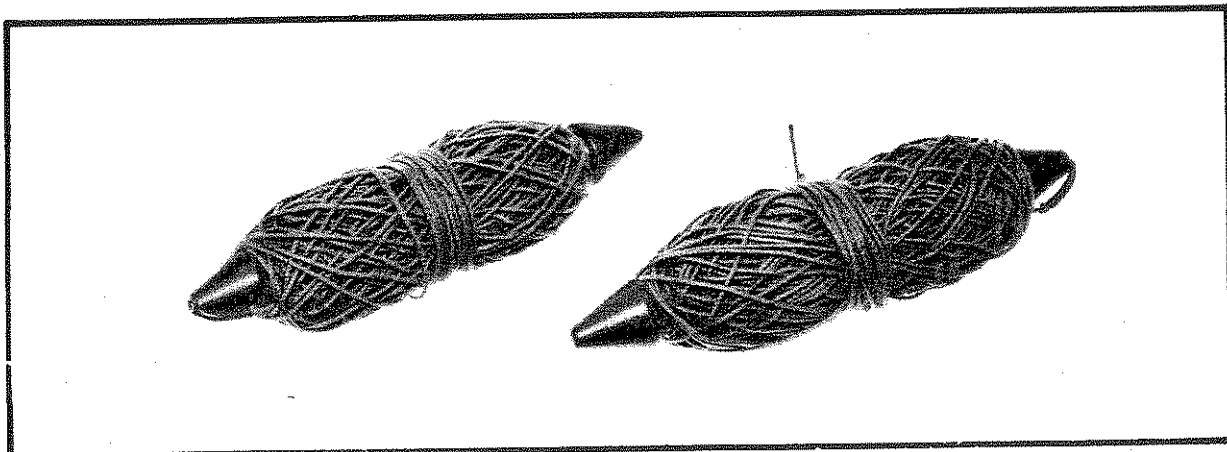

FIG 9
19. Cord Aerial, Weighted. (Fig 9). The device consists of a metal bobbin with 30 m of nylon cord wound onto it, one end of the cord being attached to the bobbin. It is used in the erection of wire antennae.